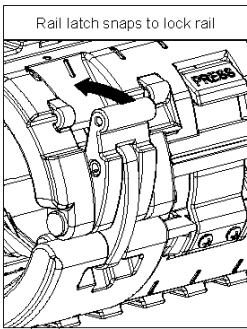

Figure 5.4
- 5.1.4 Pull up on Rail Latch Lever Assembly (#6) until it snaps into place (Figure 5.4).